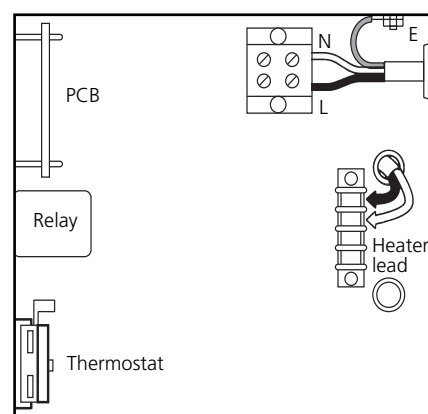

Fig 3 Termination for A4000
- 14 Pass the electric cable of the heater up into the electrical control compartment via the available orifice. Push the spade terminals onto the correct pins of the connecting strip (refer to fig. 3).